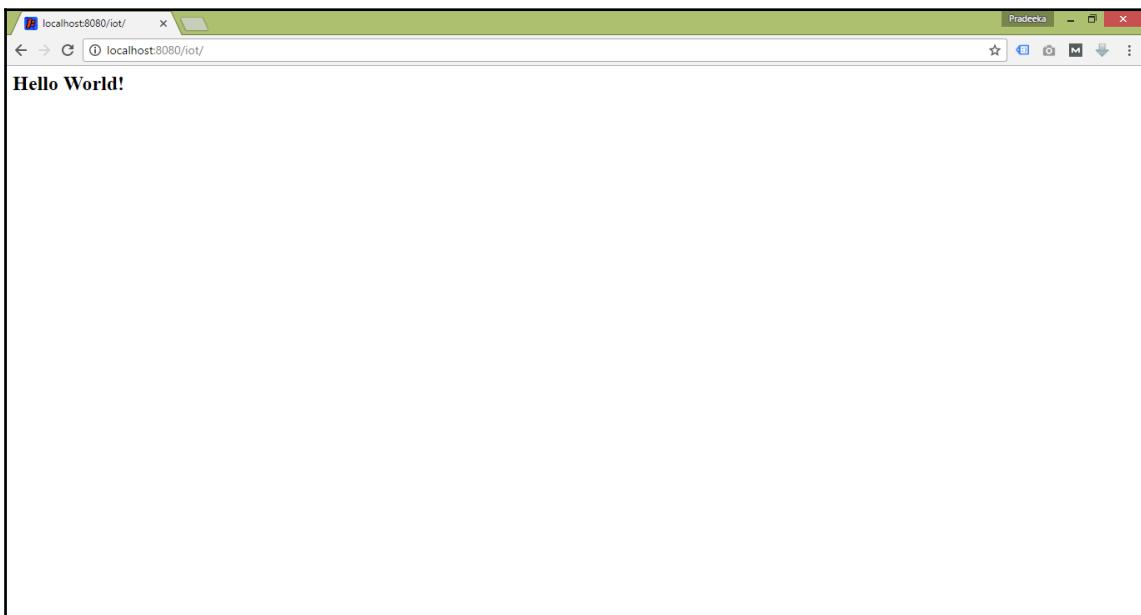

Figure 6-10: Response for web application at `http://localhost:8080/iot`
14. It's time to build and run your project. Right-click on the **iot Maven Webapp** project in the **Projects explorer** and from the context menu click on **Build**. After successfully building the project, click on **Run** from the context menu to run the project. This will start the Jetty server on the default port number 8080 and deploy the web application to the server. Your web application is available at `http://localhost:8080/iot` and you can access it using your web browser. You will get the output (Figure 6-10) from index.jsp, which is located in the Web Pages directory: